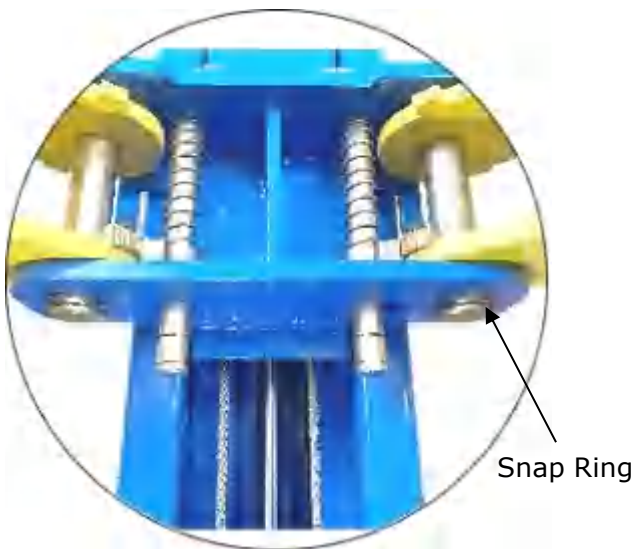

Fig. 44
1. Install the lifting arms (**See Fig. 44**).